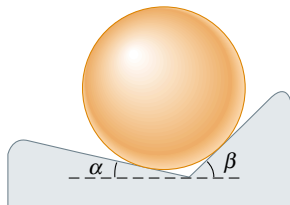

Figure P12.40
40. A solid sphere of radius R and mass M is placed in a trough, as shown in Figure P12.40. The inner surfaces of the trough are frictionless. Determine the forces exerted by the trough on the sphere at the two contact points.